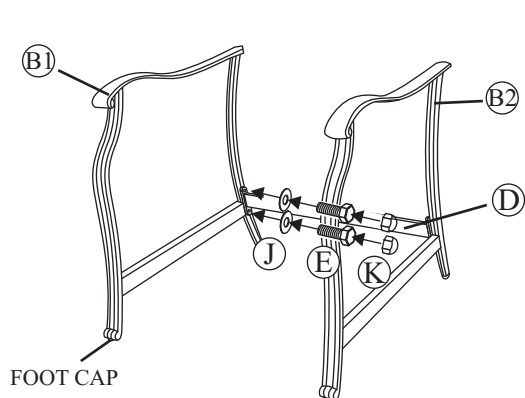

Fig. 1
- 1 Attach the leg support to the chair legs(B1 & B2) by using the 1/4"x20 mm bolts and washers as shown in Fig. 1. Guide these bolts through the holes in the leg support, into pre-drilled holes in the chair legs. **Hand tighten only.**